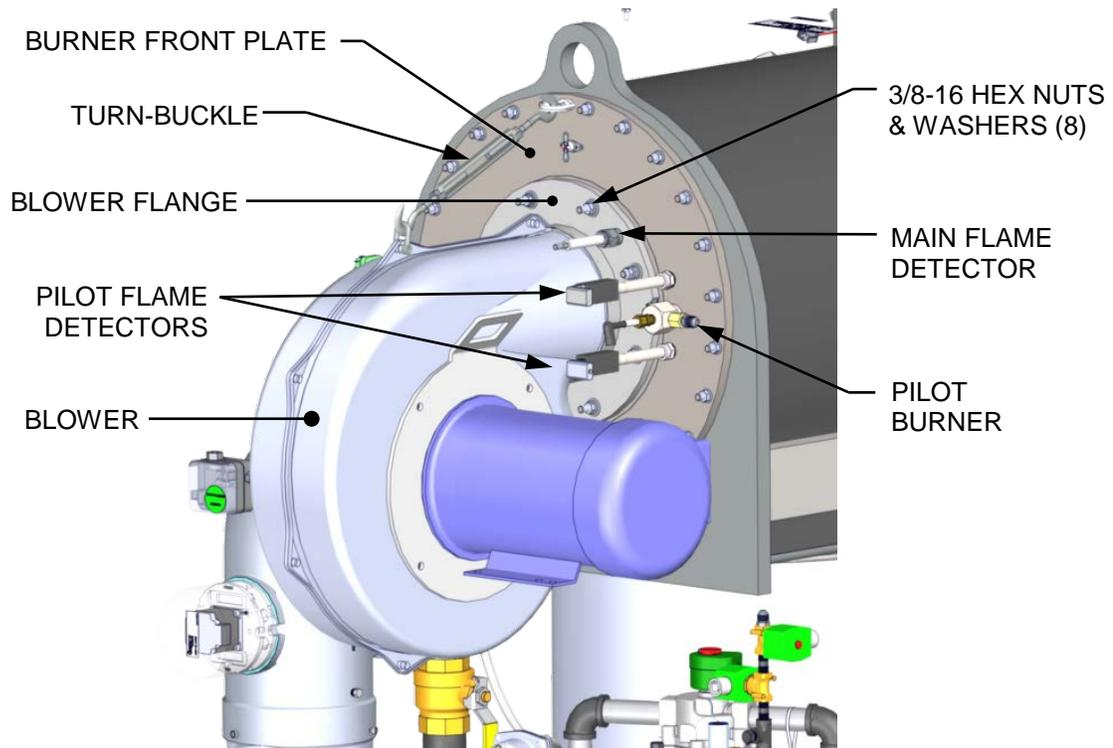
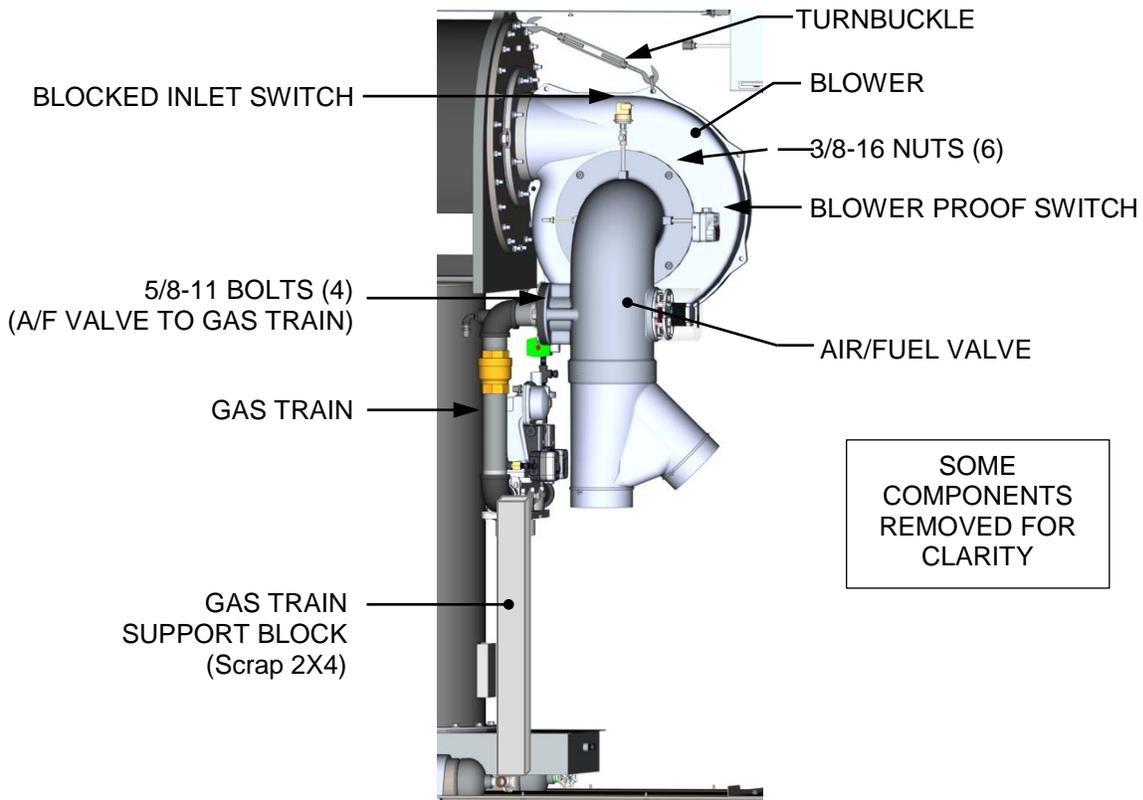

Figure 4-5a: Burner Assembly Mounting Details – Right-Front View
Figure 4-5b: Burner Assembly Mounting Details – Left Side View
6. Remove the Pilot sensors and observation ports from the Burner Plate (Figure 4-5a, below).
11. Remove the blower support turn-buckle (Figure 4-5a or Figure 4-5b).
14. Disconnect the wires from the Blower Proof and Blocked Inlet switches (Figure 4-5b).
16. Place a support block of any appropriate material (such as a scrap 2X4 cut to length) under the gas train (see Figure 4-5b), and then remove the four 5/8-11 bolts & washers connecting the gas train to the Air/Fuel valve.
18. Loosen and remove the eight (8) 3/8" hex nuts and washers from the Blower Flange where it is attached to the Burner's Front Plate (see Figure 4-5a).